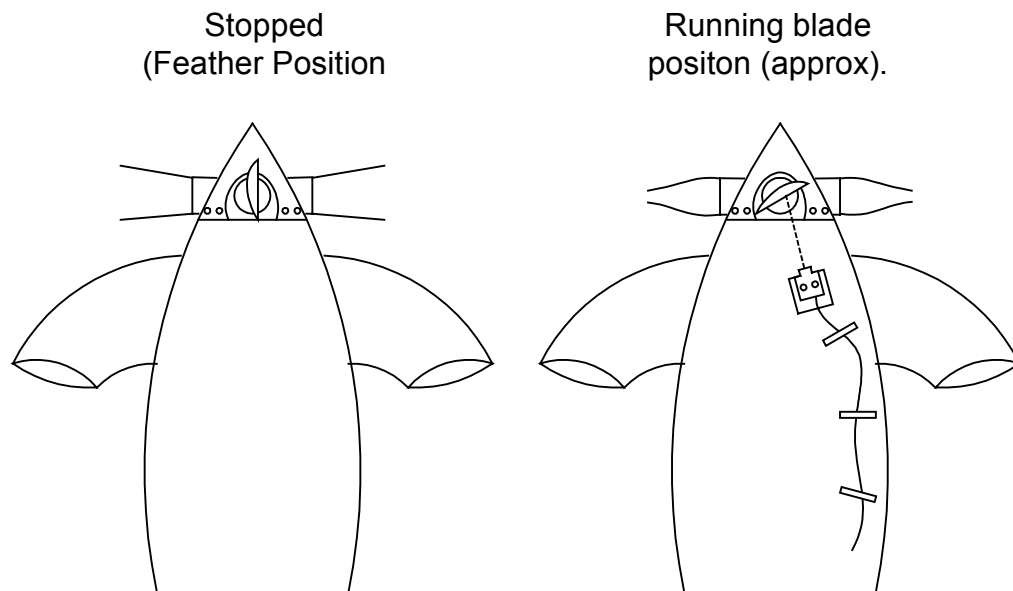

Figure 3
6. Mount the Phototach and Phototach mount assembly 12 to 18 inches aft of the propeller on the cowling of the engine. Secure the assembly base to the cowling surface with duct or speed tape. It is best to mount the Phototach at a slight angle (approximately 5 to 10 degrees) to the back of the propeller blades rather than perfectly perpendicular. You must estimate this angle based on the pitch of the propeller AFTER it comes out of the feather position. See Figure 3 below.